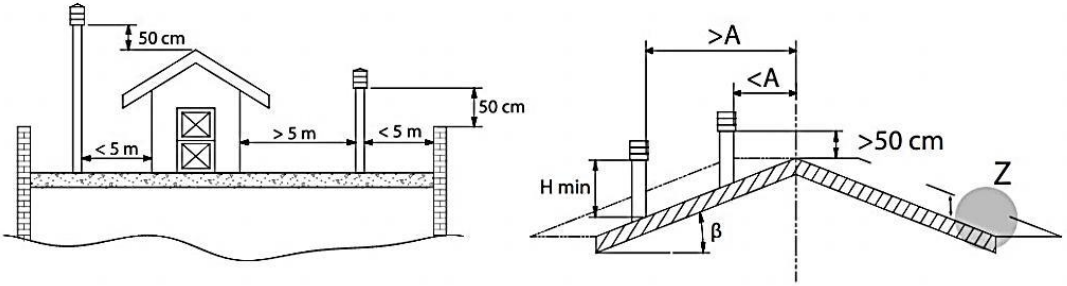

figure 2
- installed **to enable proper dispersion and dilution of combustion products outside the reflux zone** (backflow) because the counter pressure occurs here. Therefore, it is necessary to adhere to limitations listed in *figure 2*,